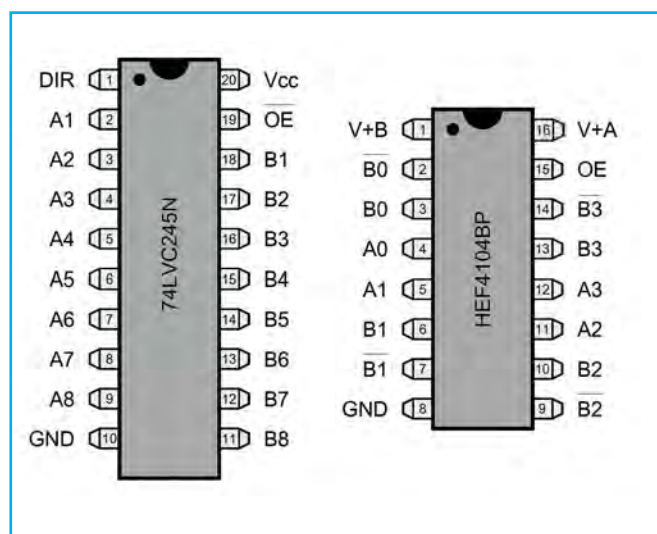

Fig.4. Details of the pin functions for the 74LVC245N and HEF4104BP chips. These are both CMOS chips and require the standard anti-static handling precautions
Pinout details for the 74LVC245N are shown in Fig.4 (left). It has a standard 20-pin DIL encapsulation, and conveniently has A1 to A8 and B1 to B8 grouped in order and on opposite sides. The Output Enable input is at pin 19,
The HEF4104BP is designed for level shifting upwards, so that a low-voltage logic circuit can drive a higher-voltage type. It has a standard 16-pin DIL encapsulation, and its pinout arrangement is detailed in Fig.4 (right). There are separate supply pins for the input and output sides of the device, which are respectively called the 'A' and 'B' sections. The 'B' supply pin is at pin 1, and this must be supplied with a voltage that is equal to or higher than the 'A' supply voltage at pin 16. The HEF4104B cannot be used to provide 'downward' level shifting, and the data sheet makes it clear that trying to use it in this way could damage the chip.
There are four inputs, which are called A0 to A3. Their corresponding outputs are B0 to B3, but there are also complimentary 'not' outputs. In Fig.4 these are indicated by the usual bar over the name. In most cases the 'not' outputs will live up to their names and will not be required. The Output Enable (OE) input at pin 15 is taken high to activate all the outputs, or low to switch them to the high impedance 'off' state.